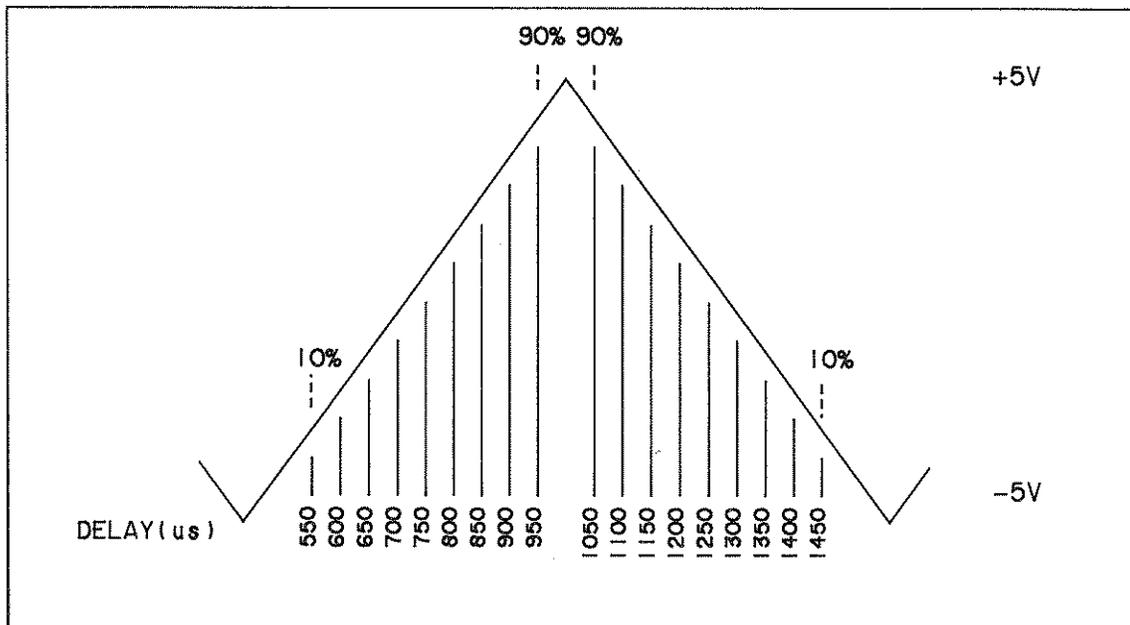

Figure 4-5. Triangle Linearity
E. Note the Digital Voltmeter reading. Record this value on the Performance Test Record under "Positive Slope Measurement". This is the 10% point on the positive slope of the Triangle (see Figure 4-5).